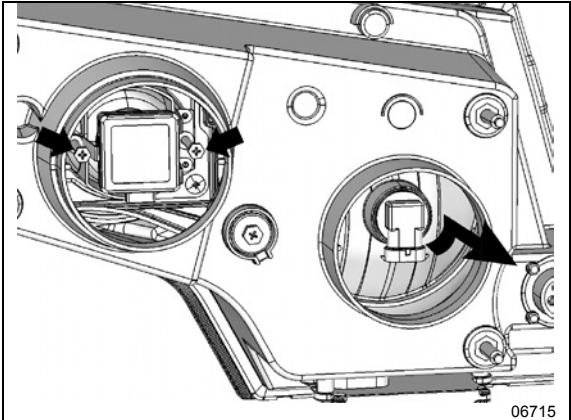

FIGURE 78: HEADLAMPS ASSEMBLY REAR VIEW
5. **HALOGEN:** turn the bulb base counterclockwise. **XENON:** Unscrew the Phillips head screws indicated by arrows, pull the retainer and bulb out (**FIGURE 78**).